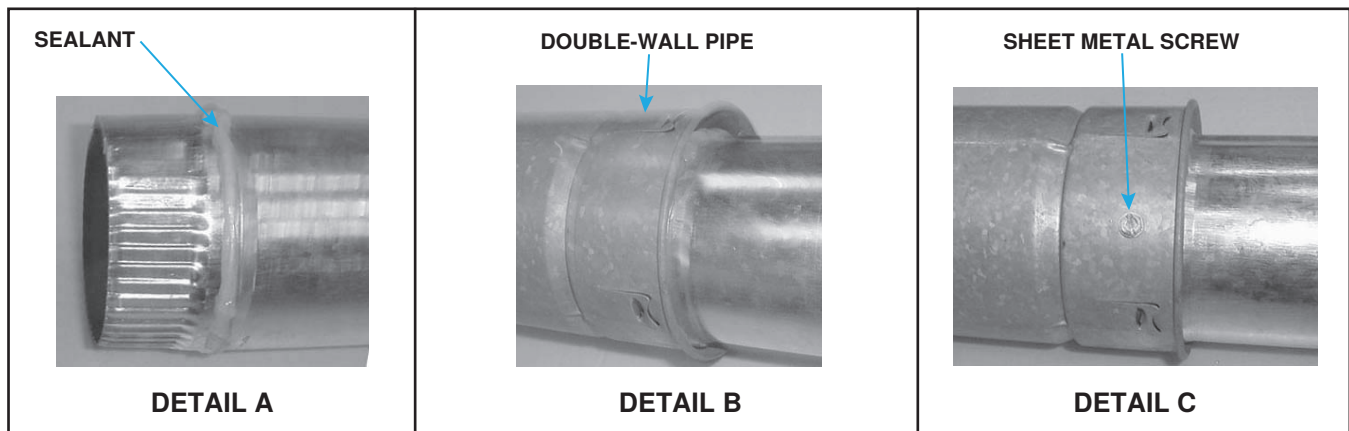

Figure 17. Connecting Double-Wall (Type B) Pipe to Single-Wall or Category III Vent Pipe
- Apply continual 1/4-inch bead of silicone sealant (see Figure 17, DETAIL A) around circumference of pipe.
- Before sealant has any time to dry, insert pipe with sealant into inner wall of double-wall pipe (see Figure 17, DETAIL B) until bead of sealant contacts inner pipe to create sealed joint.
- Drill three small holes—spaced equally around double-wall pipe—below sealant ring (see Figure 17, DETAIL C) and insert 3/4-inch-long sheet metal screws to secure joint. Do not overtighten screws.